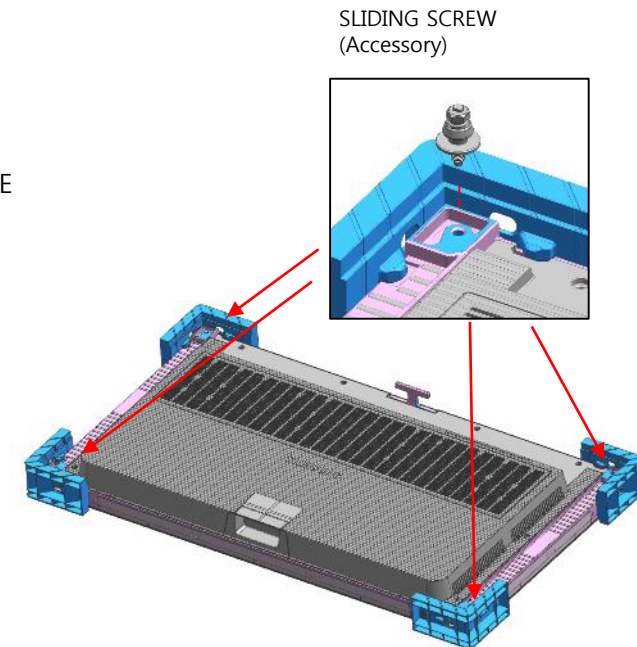

Fig.3 Bolt Assembly
- ③ Assemble four(4) Sliding Screw for installation at the hole located at the outermost part of the Corner. (Fig.3)